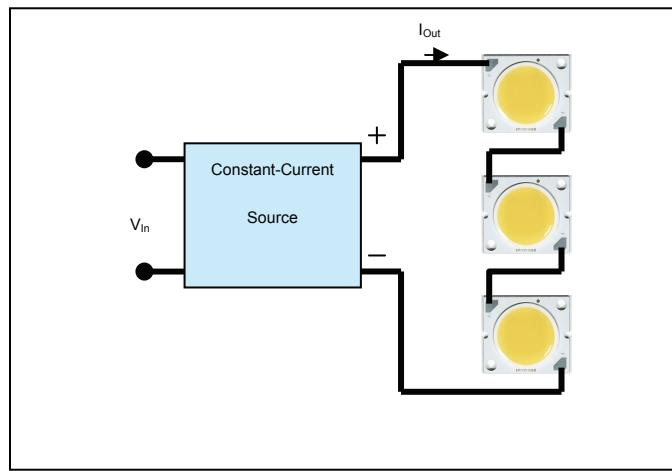

Figure 7: Multiple LED Arrays driven in series with a single constant current source
1. When using a single LED driver with a single constant current output channel, connect the LED Arrays in series to complete the electrical circuit (Figure 7). This arrangement ensures that all LED Arrays will be operated at the same current.